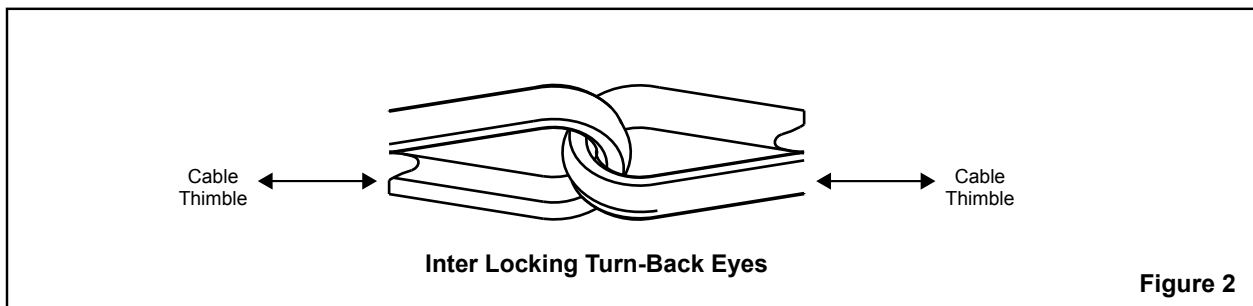

Figure 2
- STEP 1. Slide thimbles together as shown in (Figure 2) Above.